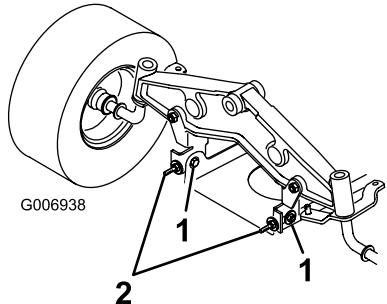

Figure 50
- Slightly loosen the front pivot plate mounting bolts (Figure 50).
- Rotate the locknuts on the eyebolts to change the adjustment (Figure 50).
- After adjusting both of the eyebolt locknuts evenly, check the front-to-rear slope again. Continue adjusting the eyebolts until the front blade tip is 0 to 3/8 inch (0 to 9 mm) lower than the rear blade tip (Figure 50).
- When the front-to-rear slope is correct, tighten the pivot plate mounting bolts (Figure 50).